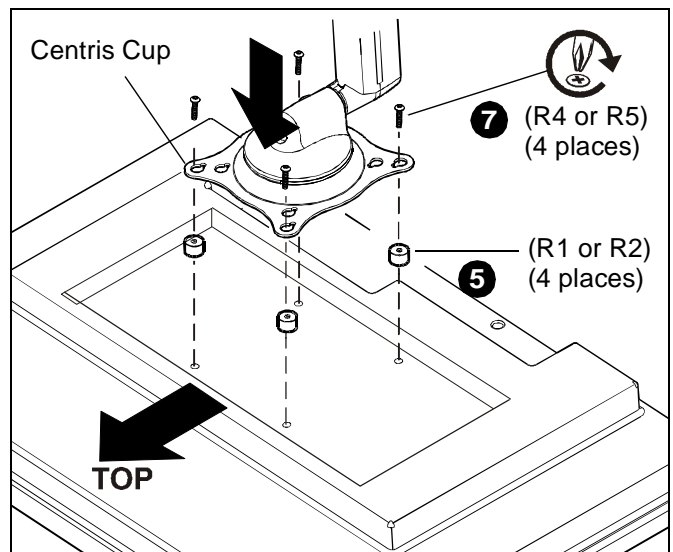

Figure 7
5. Place the four spacers (R1 or R2) over each mounting hole on the back of display. (See Figure 7)
6. Orient mount so that mounting holes in the Centris cup are aligned with the holes in the spacers (R1 or R2); rotate the Centris cup as required (See Figure 7).
7. Using Phillips screwdriver, install four screws (R4 or R5) through the mounting holes in Centris cup, through the spacers (R1 or R2), into display (See Figure 7).